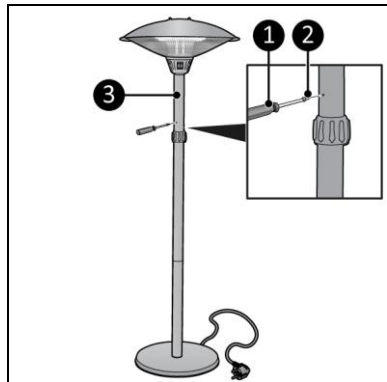

Figure 7
7. Loosen the adjustment knob and slide the inner tube (Figure 7, pos. 3) out of the adjustable tube until a hole can be seen.
8. Place a small screw (Figure 7, pos. 2) in the hole and tighten it with a Phillips screwdriver (Figure 7, pos. 1).